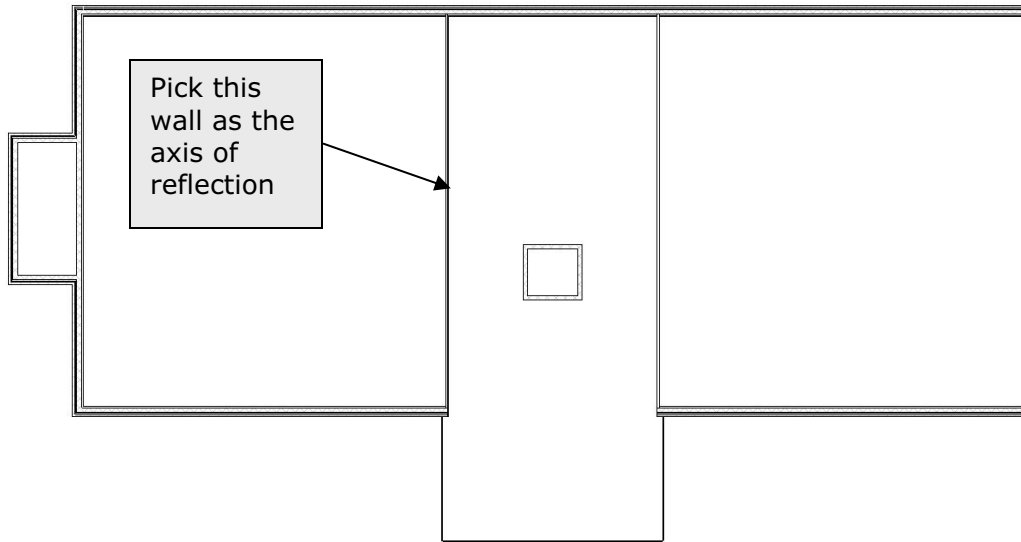

Figure 3-3.9 Mirror west stair – step 1
- Erase the four walls of the east stair shaft; this will include the main east wall of the office building (Figure 3-3.9)
- Select the six walls at the west stair (Figure 3-3.9).
- Select the **Mirror** tool and then select the atrium wall identified in Figure 3-3.9.